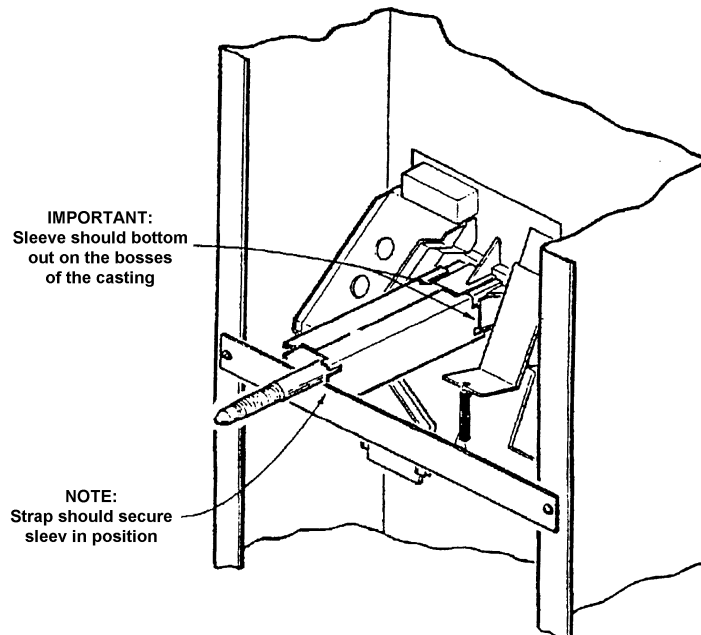

Figure 4
7. See figure 4 for installed view.